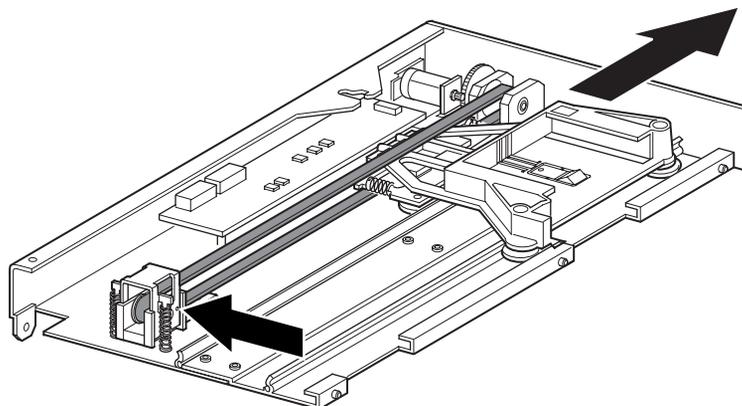

Figure 14: Media elevator car location
2. Slide the media elevator car to the top of the PTM base unit (see Figure 14). Note that the top of the PTM base unit has the drive motor on it.
4. Position the media elevator car over the belt block access cutout (see Figure 14 on page 36).